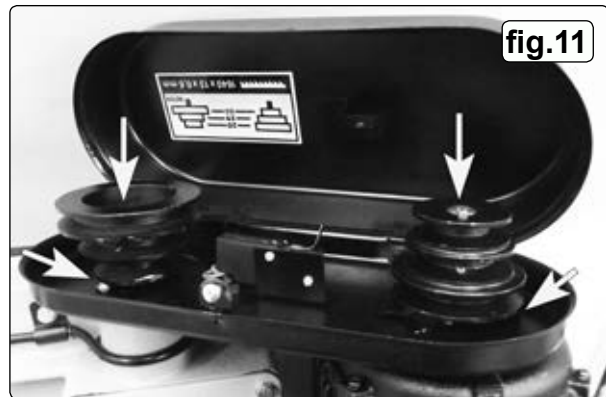

fig.11
4.5. Fit the motor and driven pulleys and drive belt Refer to fig.11
4.5.3. Make sure both pulleys are the same distance from the belt guard and that the top faces of both pulleys are level, see white arrows in fig.11. Tighten the grub screw.